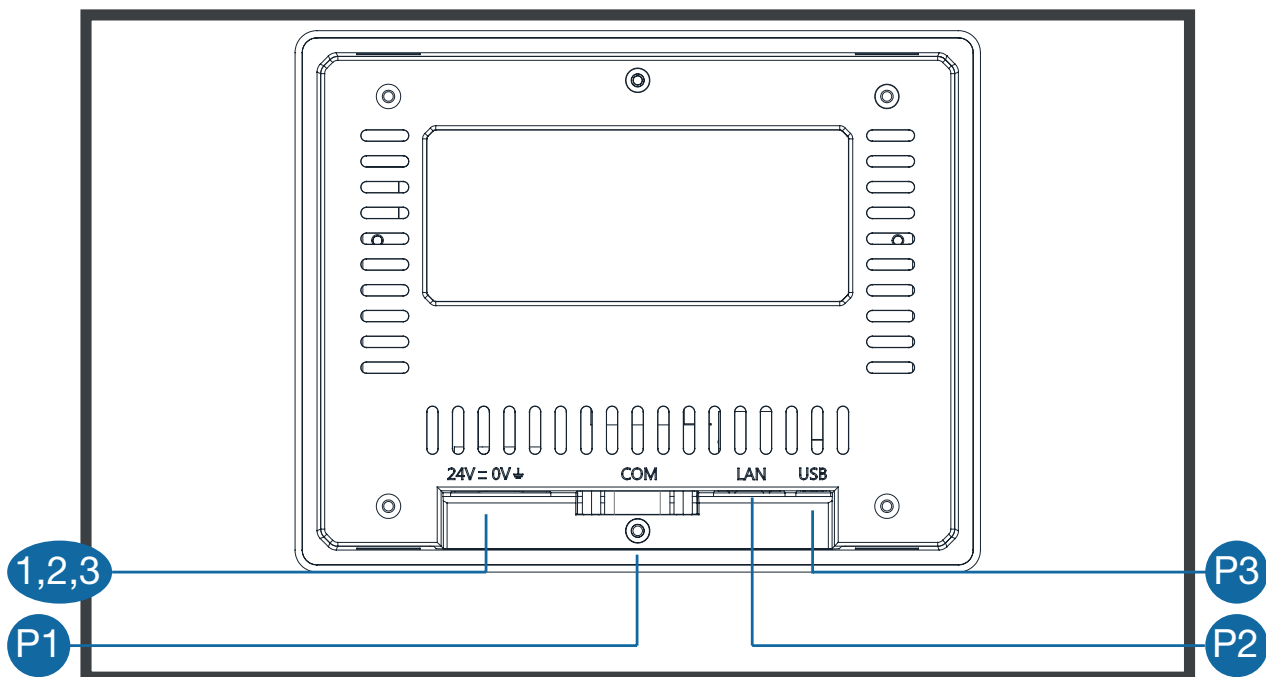

Fig. 3 HMI
The HMI (Fig. 3 on page 14) is equipped with:
- Power supply (1,2,3 - Fig. 3 on page 14),
- communication ports (P1 - Fig. 3 on page 14),,